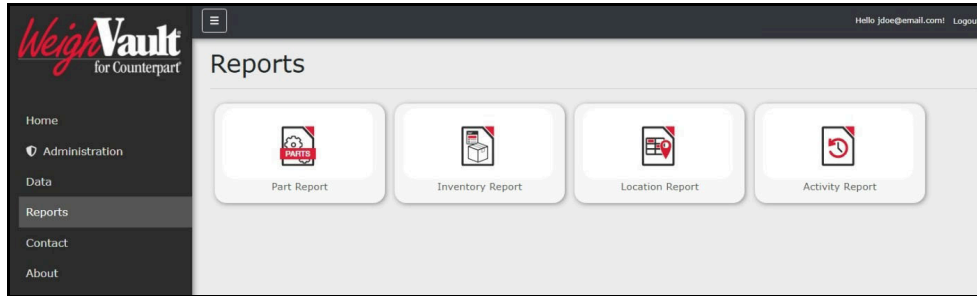

Figure 6-3. Reports Page
3. The Reports page displays (see Figure 6-3 on page 48).